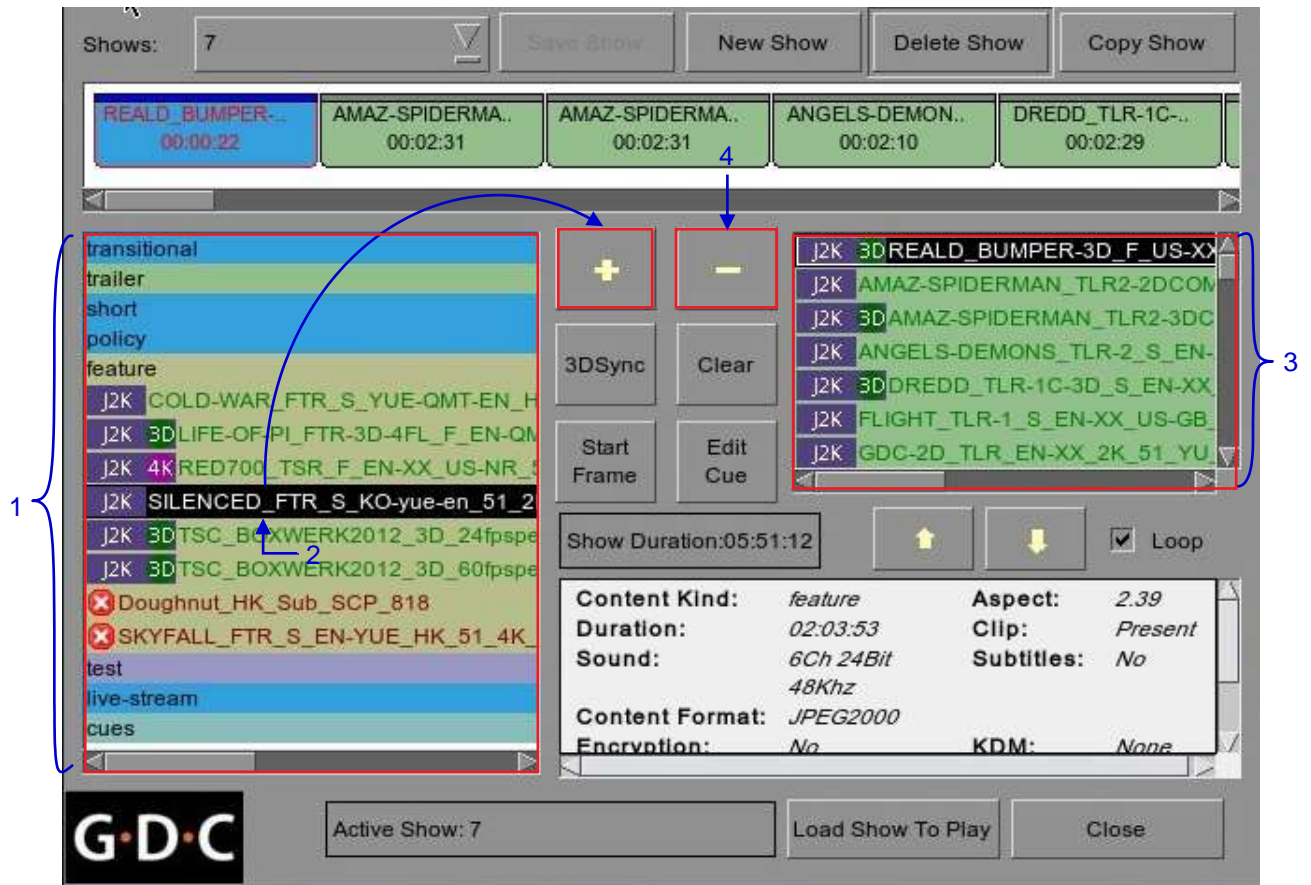

Figure 29 Playlist menu.
- 1 On the **SMS** interface, press [] to open a **Playlist** menu for creating playlists as seen in **Figure 29** below in **Section 2.4.1.2. Creating a Playlist**.